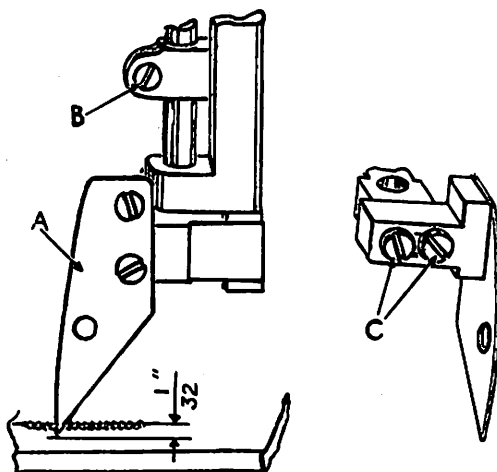

Fig. 16
The bag trimming knife (A, Fig. 16) should be set centrally in the knife slots in the presser foot and throat plate. It should also be set so that when at its highest position, the point of the knife is $\frac{1}{32}$ inch below the surface of the throat plate. In order to set the knife for height loosen knife driving stud clamp screw "B" which allows the knife and knife holder to be moved up or down to proper position. To set the knife laterally, loosen screws (C) and locate knife in center of knife slot.